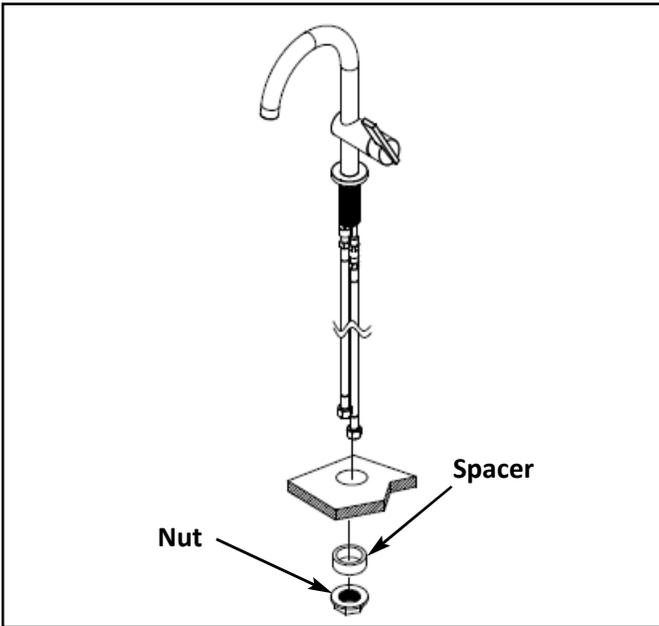

Figure 1
1. Place the spout hoses, one at a time, and secure spout into place with SPACER and flange NUT. **See Figure 1.**